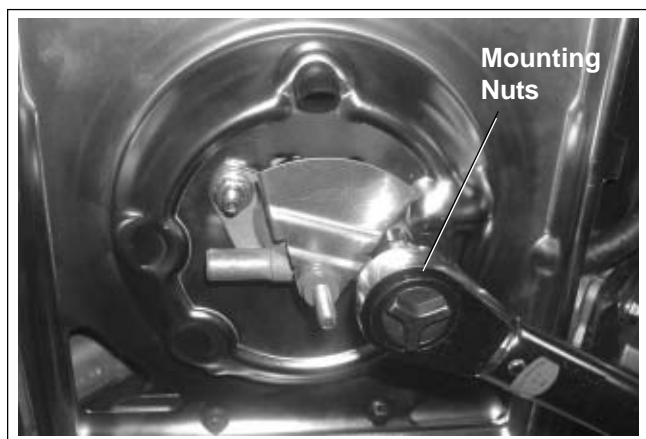

Figure 11-81. Torquing Base and Spitback Cup Mounting Nuts.
2. Position a new gasket and the air cleaner base on the studs while carefully pulling the loose end of the rubber breather hose through the base until properly seated (collars sealed against each side of the base. See Figure 11-81.
3. Secure the air cleaner base and bracket, or spit-back cup with baffle, using the hex. flange nuts. If a lower air cleaner bracket is used, install the two M5 screws through the lower section of the base. Torque the hex. flange nuts to **6.2-7.3 N·m (55-65 in. lb.)**, and the two lower M5 mounting screws (when applicable) to **4.0 N·m (35 in. lb.)**. See Figures 11-81 and 11-82.